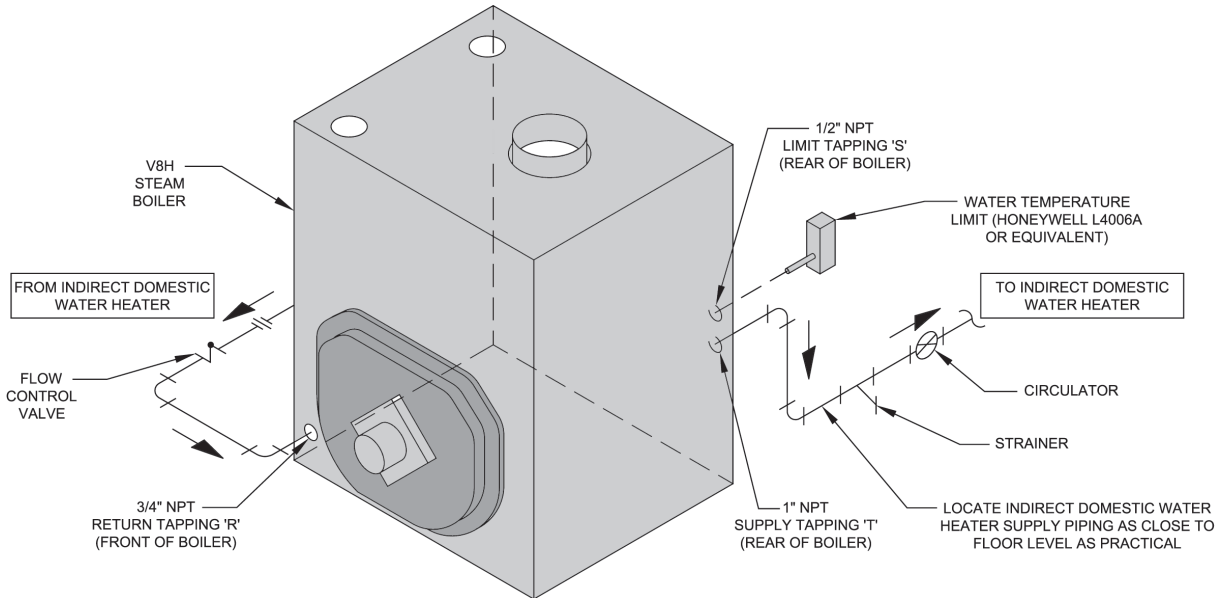

Figure 16B: Indirect Domestic Water Heater Piping with V8H Steam Boiler
B. CONNECT INDIRECT DOMESTIC WATER HEATER PIPING as shown in Figure 16B.